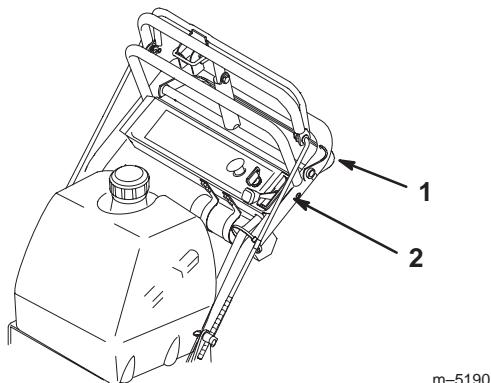

Figure 18
- At the same time engage lower control bar and lift up on handle (Fig. 18 and 19).